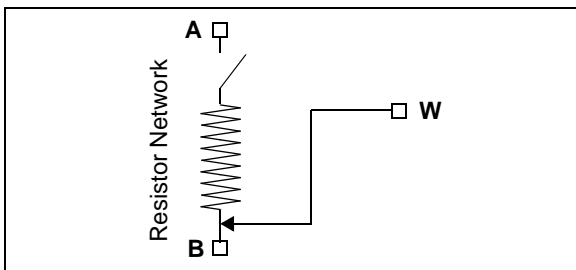

FIGURE 5-2: Resistor Network Shutdown Configuration.
- The PxB terminal is simultaneously connected to the PxB terminal (see Figure 5-2)